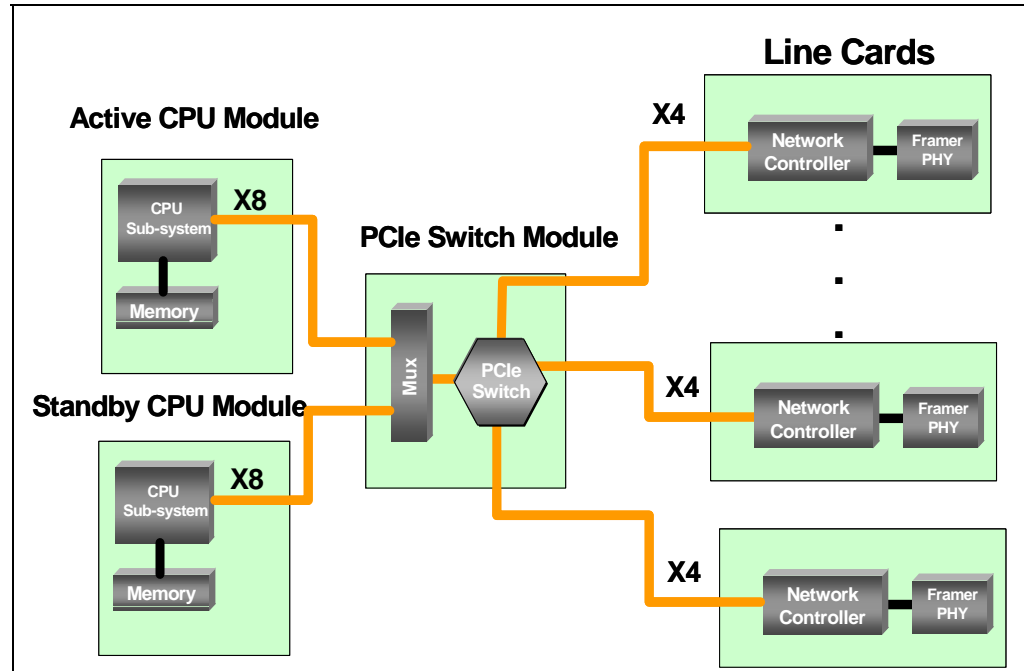

Figure 4 Dual-CPU Topology
A mid-range router often requires some level of redundancy. A dual-CPU topology has both an active and a standby CPU. An example of this topology is given in Figure 4. A Mux/DeMux device such as the IDT PS421 Multiplexer/Demultiplexer Switch connects the Upstream Port (UP) of the PCIe switch to either CPU. The Mux/DeMux may also be integrated into the PCIe switch. The CPU that is connected to the UP of the PCIe switch becomes the active CPU. During normal operation, the active CPU is in control of the system and performs all routing functions. The standby CPU is not connected to the system. There is an out-of-band connection (not shown) between the CPUs, allowing heart beat and checkpoint messages to be sent periodically from the active to the standby CPU. The standby CPU monitors the state of the active CPU.